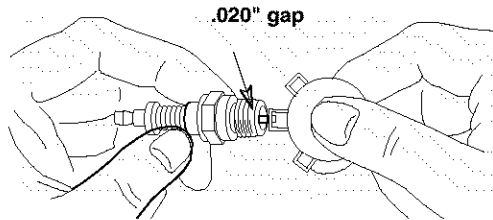

Figure 10
3. Replace the spark plug if electrodes are pitted, burned, or the porcelain is cracked. See Figure 10.
- Clean the spark plug and reset the gap to 0.020" at least once a season or every 100 hours of operation. See Figure 10 . Replace if necessary. Refer to parts list section for part number.